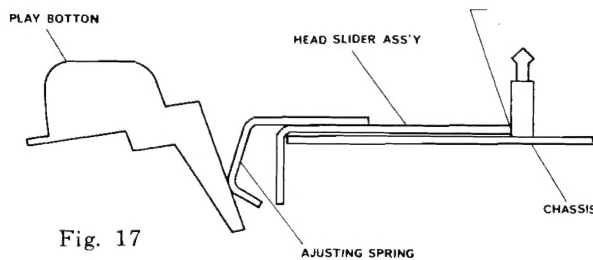

Fig. 17
2. Adjust the Head Slider (Head Base) to be as per in Fig.17 during Forward operation.